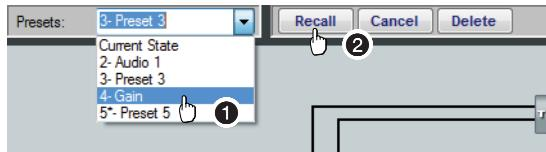

Figure 58. Recalling a Preset
- Select the desired preset in the **Presets** drop-down box (see figure 58).